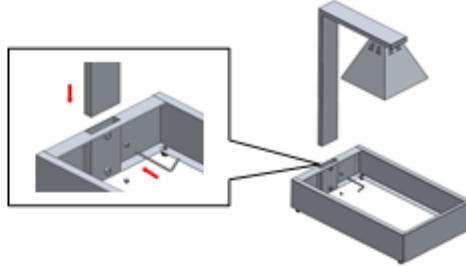

Fig.2
3. Insert the assembled Bulb frame into the Food pan container, fix it by tightening screws. [ Fig.2 ]